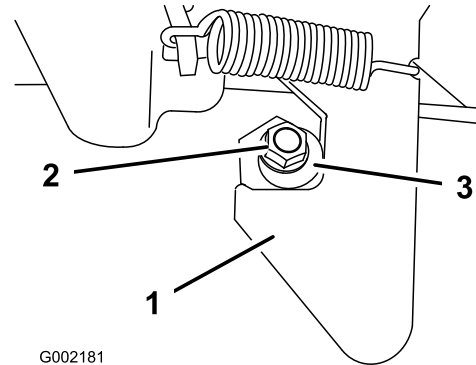

Figure 60
1. Loosen the locknut on the end of the latch post (Figure 60).
2. Rotate the latch post clockwise until it is snug against the hook portion of the latch (Figure 60).